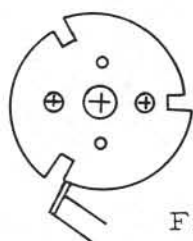

Fig. 47-1
1. Set the Count starting lever (B124) on the lower part of the cam as shown in Fig. 47-1